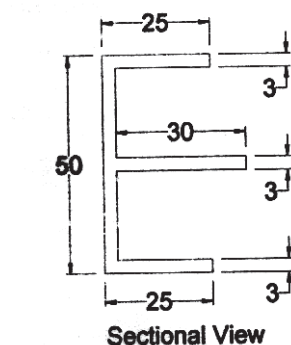

Fig.1: Extruded Aluminum Section
- b)** An Aluminum billet of 50mm diameter and 1m long is extruded to the final shape shown in Fig1. Calculate: [8]